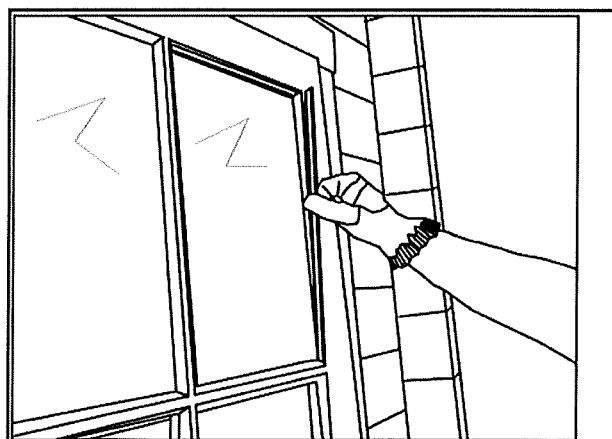

FIG 23
2. Hold into position with four pieces of beading. The beading may need to be swapped around to get the best fit. When satisfied secure into position using 2x 15mm panel pins per piece of beading (Fig 23).